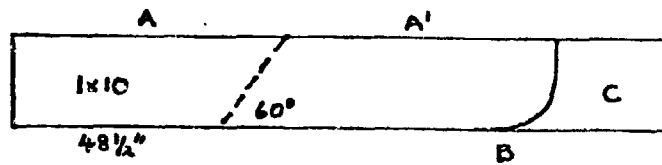

Figure 2
- 3 : TRAY SUPPORTS.** If you want six trays, cut 12 tray supports 18" long. Nail with 4 nails each to the 1 x 10's, spaced evenly. Leave 6" at the top for the vent. (Figure 2). Otherwise, nail as many tray supports as there will be trays (up to eleven) on each dryer side.